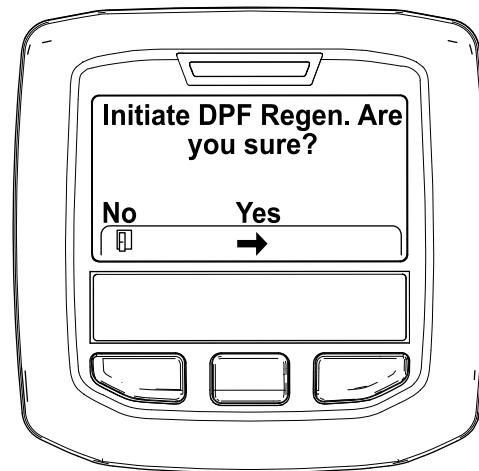

Figure 34
- When the "Initiate DPF Regen. Are you sure?" message displays, press the center button (Figure 34).